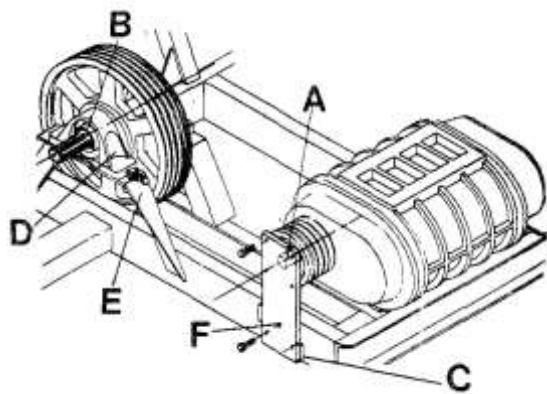

Fig.19 *Belt Tensioning*
1. **Fig. 19 Belt Tensioning.** Remove support lugs **C** (where supplied).